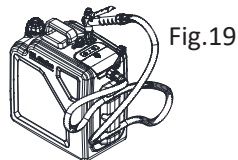

Fig.19
2. Push the soft hose into the fixing slots as shown in Fig.19